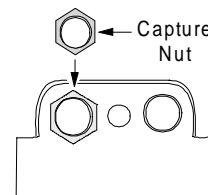

Figure 4: Capture Nut
3. Slide the capture nut (supplied with the actuator) into the slot located inside of the unplugged conduit opening. (See Figure 4.)